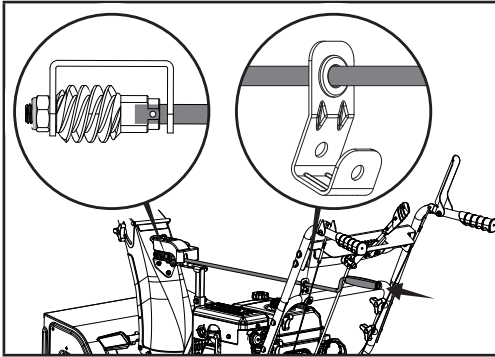

Figure 10
2. Insert the lever through the discharge chute bracket on the lower handle, and then into the hole of the gear (Fig. 10).